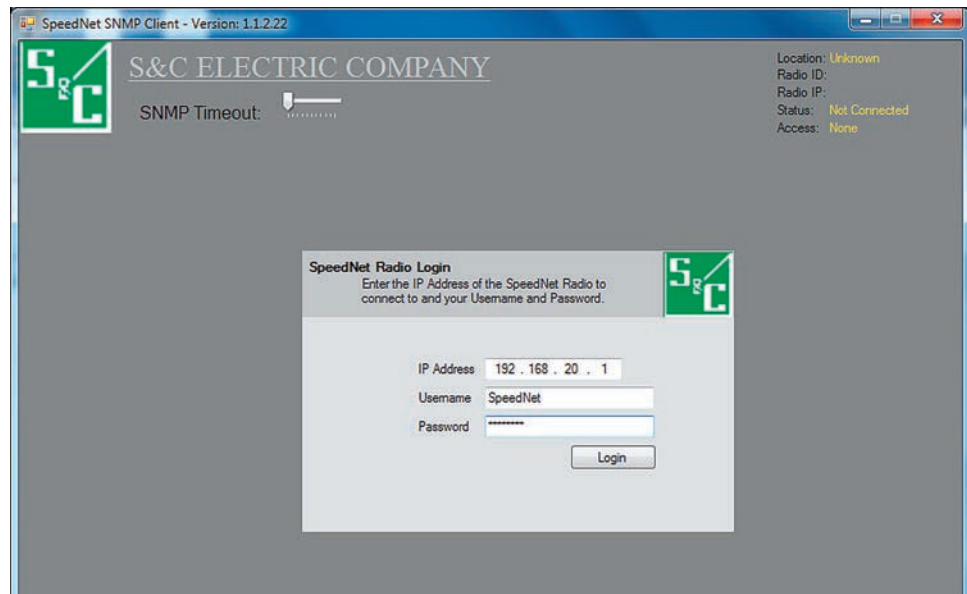

Figure 14. SpeedNet Radio login dialog box.
STEP 11. Open the Client Tool (see Figure 14) and enter: